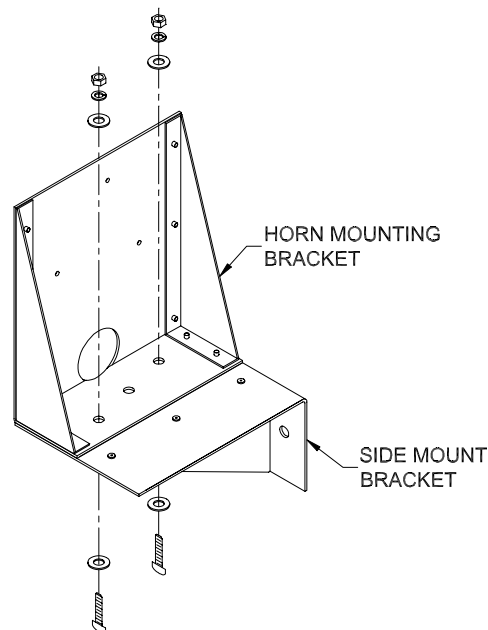

Figure 5 Side Mount Bracket Removal
6. The horn mounting bracket has a side mount bracket attached. If the horn is going to be mounted on top of the scoreboard, remove the side mount bracket as seen in figure 5.